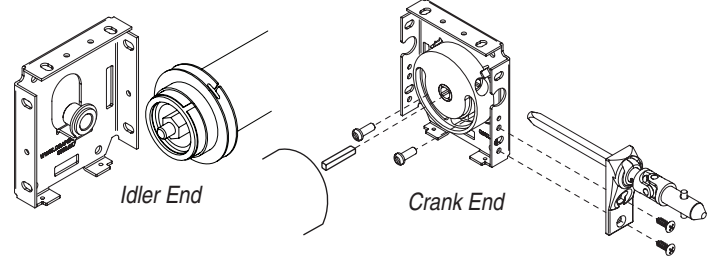

Figure 4
- ⑤ **For crank operated units:** If the shade has a detachable crank handle, remove the universal joint from the bottom of the end cap by removing 2 screws. Save universal joint & screws. Remove retaining pin from idler end, lift pin out of endcap, and carefully pull the crank end out of the crank endcap (see Fig. 4).
- ② **For crank units:** Attach short end of "L"-shaped Stay Bar Stops to Stay Bar (Figs. 4 and 11).